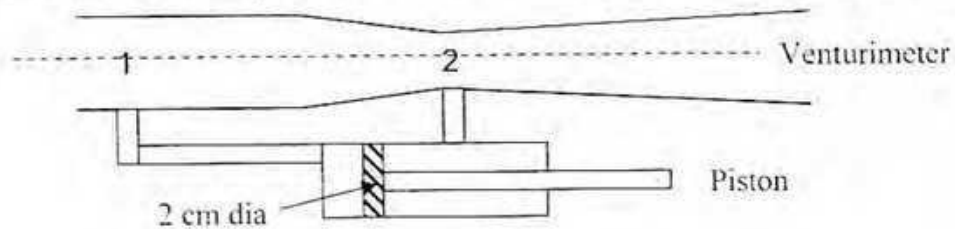

Figure 5
4. a. Two sides of a cylinder fitted with a piston are connected to the inlet and the throat of a horizontal venturimeter as shown in Figure 5. If the diameter at the inlet and the throat are 10 cm and 6 cm respectively and the velocity of water in the pipe is 5 m/s, calculate the force on the piston. The diameter of the piston is 2 cm. Ignore losses. 6